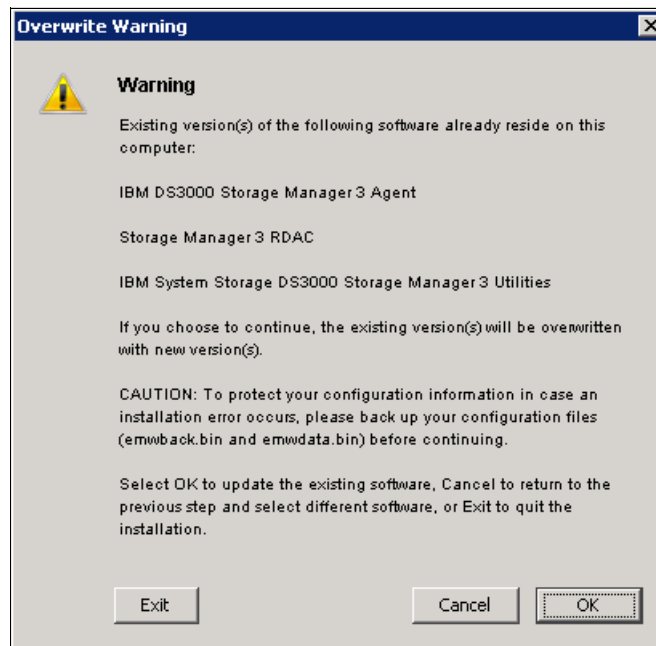

Figure 5-9 Overwrite Warning
9. If a version of Storage Manager is already installed, you will see the warning shown in Figure 5-9. You can select to overwrite the existing installation or to cancel at this point. Click **OK** to continue. If you do not have Storage Manager already installed, you will not see this warning.